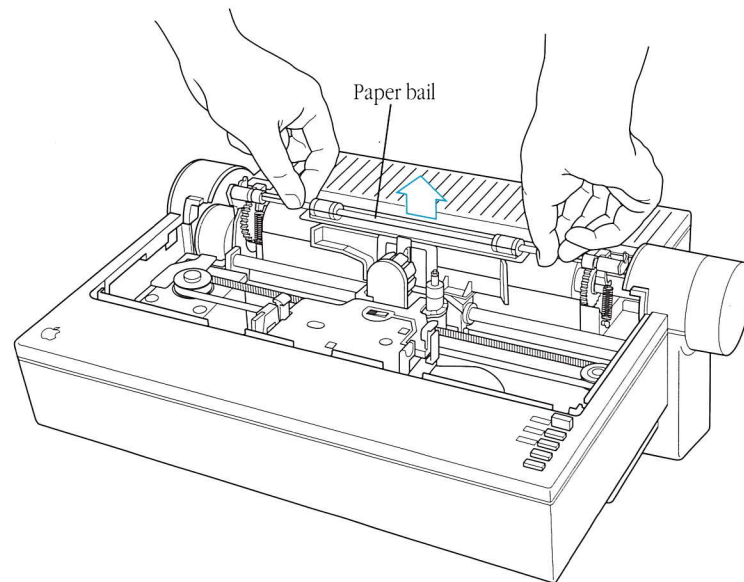

Figure 5-4 Setting the paper bail for envelopes
5. Lift up the paper bail until it locks into place. (See Figure 5-4.)